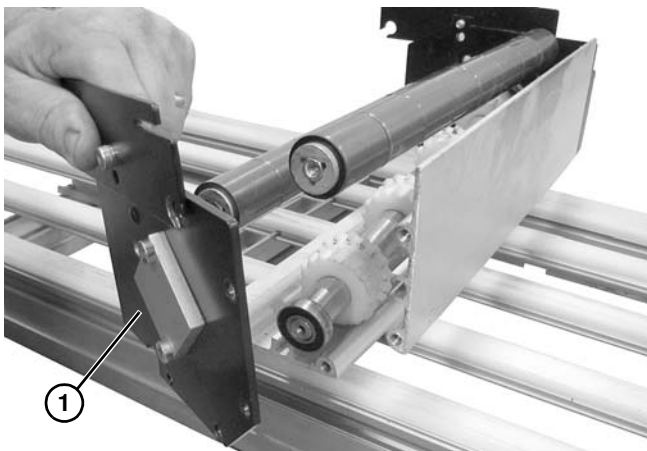

Figure 57
8. Remove side plate (**Figure 57, item 1**).